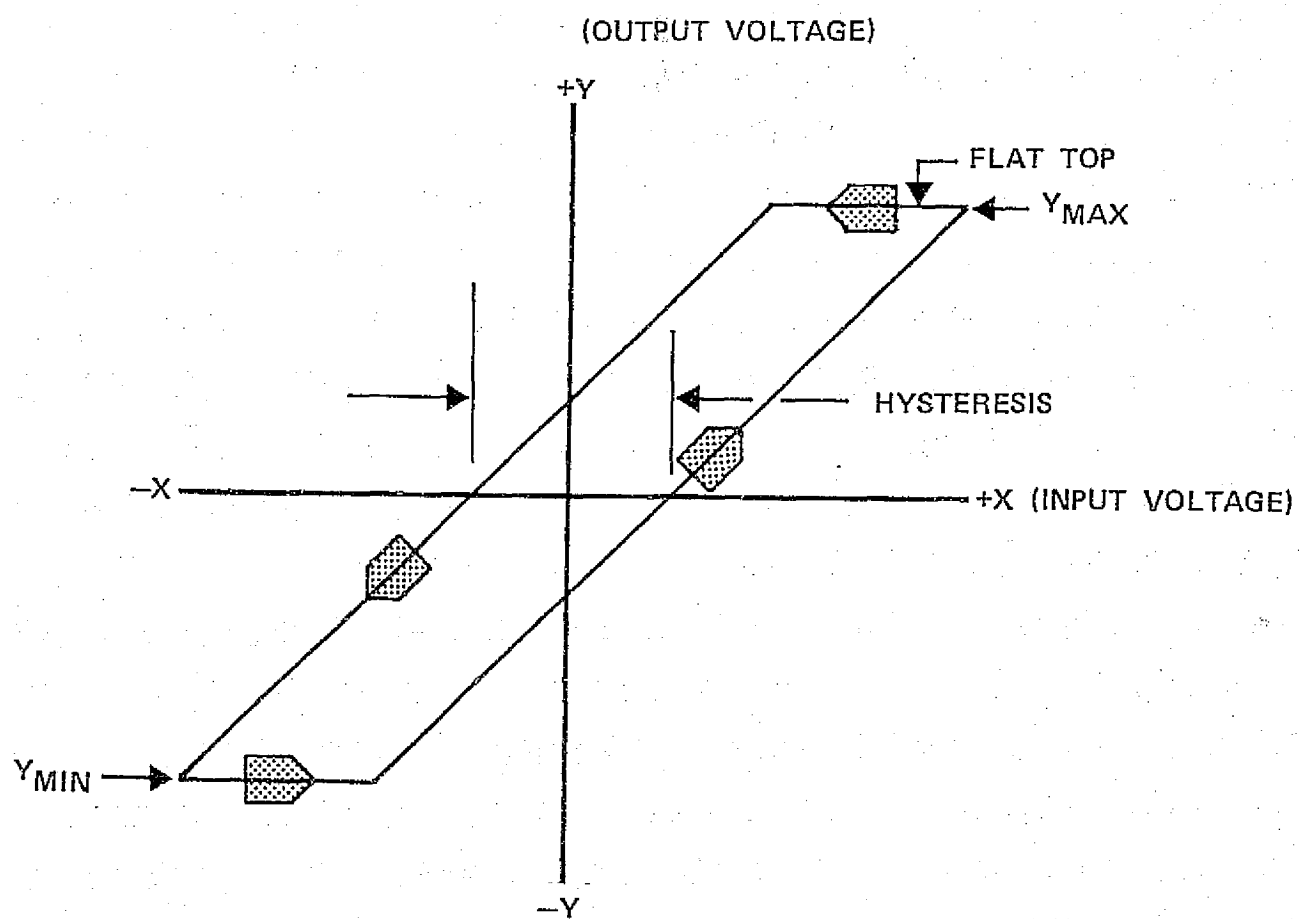

Figure 2. — Hysteresis curve.
- C. With a ± 1 V at 0.1 Hz triangle waveform signal into the input, adjust the offset pot R10 unit. The output waveform has a flat top and bottom. Repeat the procedure using a frequency of 0.02 Hz. The top and bottom may have a slight curve but it should look relatively flat. (See figure 2.)
- D. After consulting the schematic to determine the correct amount of hysteresis, put an input triangle waveform of ± 5 V at 0.1 Hz into the input and adjust the decade resistor box to obtain the correct hysteresis value. The hysteresis value is read from the DVM connected at pins 5 and F. (See figure 2.)